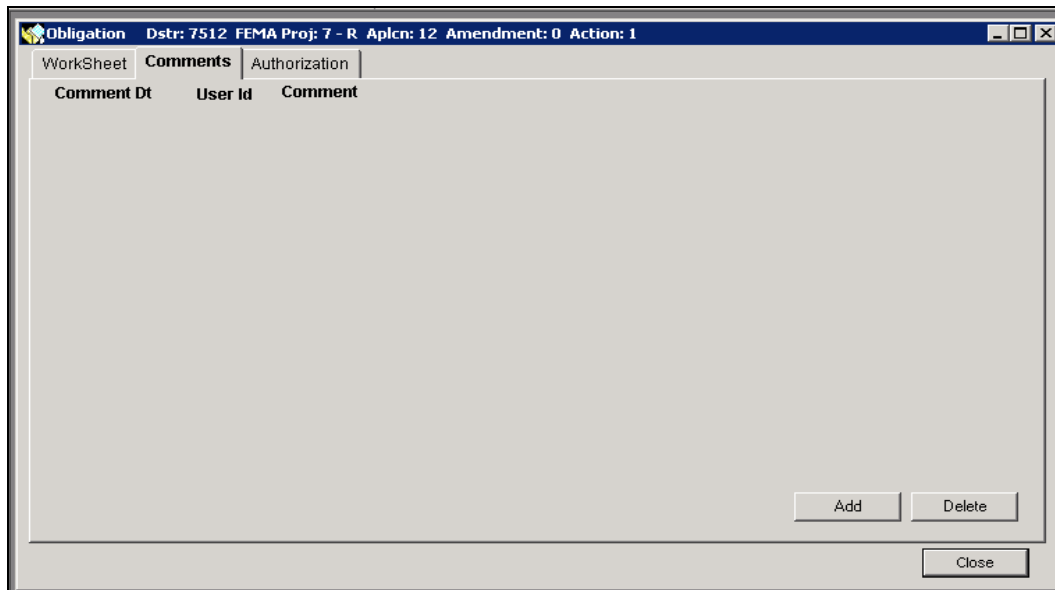

Figure 10-43: Mitigation > Funding > Obligations > Comments Tab
- Click the **Comments** tab (Figure 10-43).